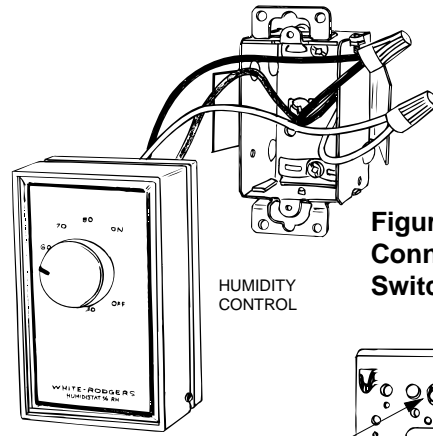

Figure 2.
1. With wallplate still attached to humidity control and wires through wallplate, connect leads together; one black to Line, other black to Load and secure with wire nuts. Connect green wire to electrical box ground. (see Fig. 2)